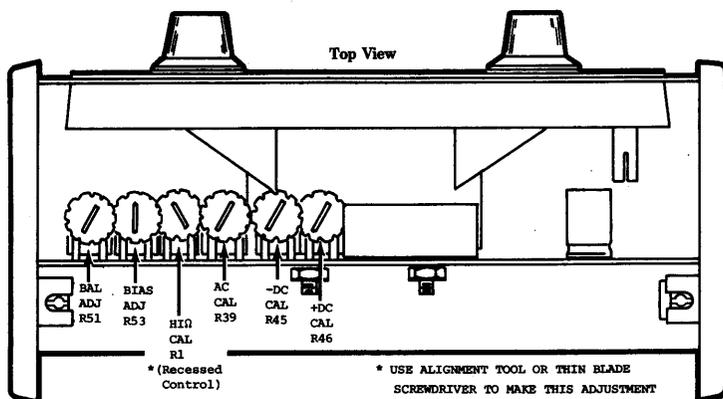

Figure 4. Adjustment Locations
**CALIBRATION OF THE 290 (SEE FIGURE 4 FOR ADJUSTMENT LOCATIONS):** To gain access to the calibration adjustments it will be necessary to remove the back from this instrument. To remove the back cover, remove the two (2) screws located at the bottom rear and the two (2) screws at the rear near the top of the cover. After the screws have been removed, tilt the bottom part of the back cover outward (away from rear of unit) allowing the line cord to slide through opening and then gently lift the back cover up and away from the top portion of the front panel. Adjustments must be made in the order indicated below: